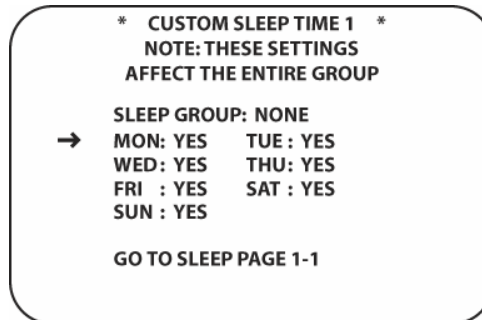

Figure 117 Custom Sleep Time 1
3. To configure a custom schedule, with the cursor next to WHEN, press the ◀/▶ **Navigation Button [oval 16]** until CUSTOM appears on screen. Press the **Set Button [oval 18]**. The CUSTOM SLEEP TIME 1 screen will appear. (Figure 117)